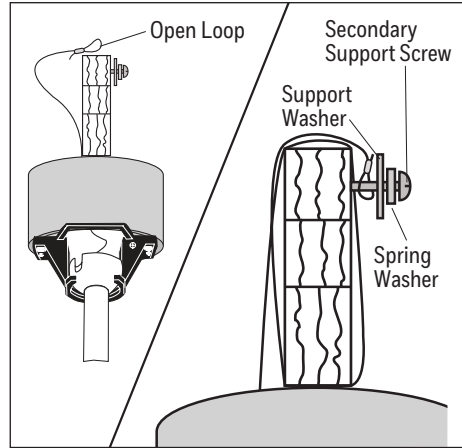

Figure 4.2
2. Install secondary support screw, spring washer and support washer partly into the side of the brace installed in the ceiling. Then loop the braided cable up and over the ceiling brace and place the open loop of the braided cable around the secondary support screw. **Note:** The ceiling support brace may not be accessible from below. If not, it must be accessed from above. **Important:** The braided cable must make a complete circle around the support brace to secure the fan (Figure 4.2).